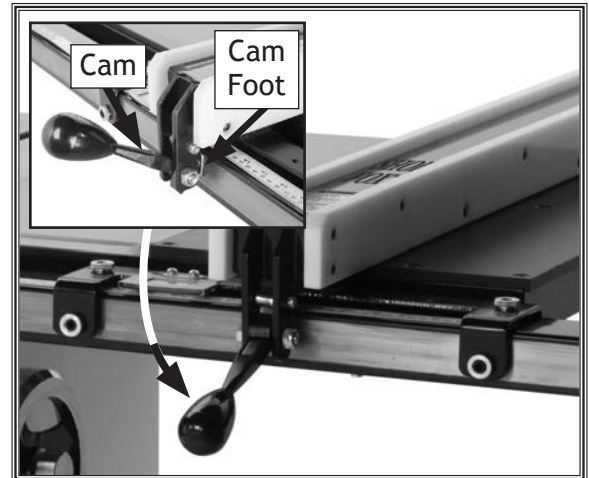

Figure 27. Fence installed on rails.
2. Place the fence on the rails on the right hand side of the blade (see **Figure 27**).